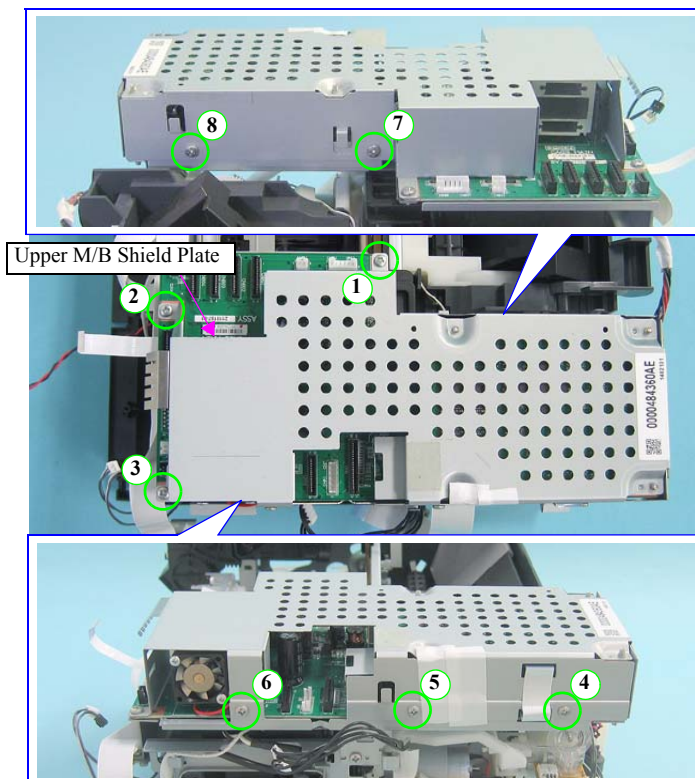
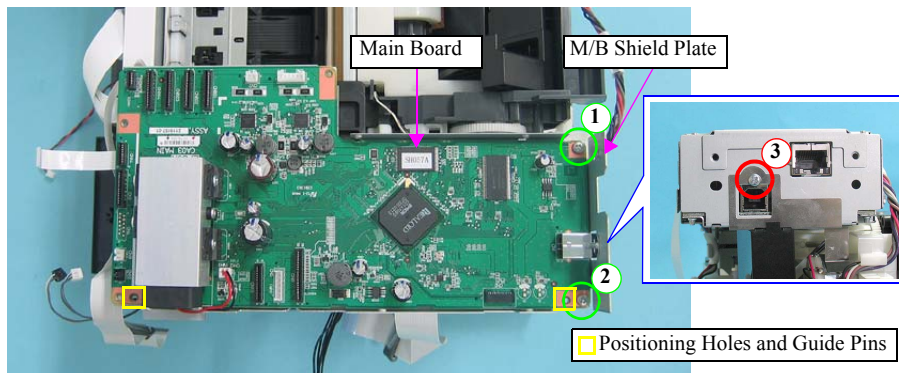

Figure 4-48. Removing the Main Board. (1)
Figure 4-50. Removing the Main Board. (3)
- Tighten the screws in the order indicated in Figure.4-48 and Figure.4-50.